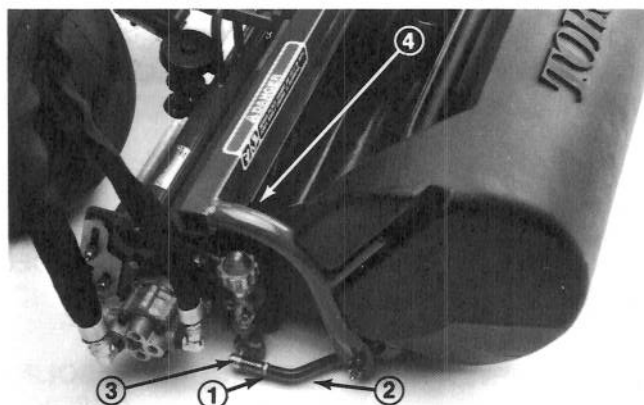
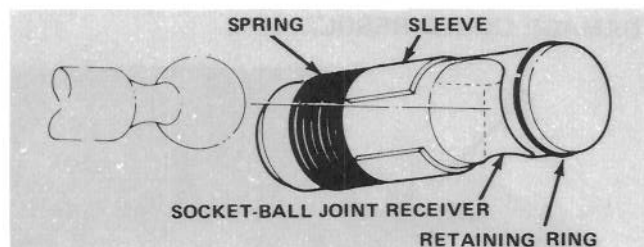

Figure 6
Figure 7
6. Mount the baskets on the pull frames, loosen the jam nuts on the pull arms and adjust the ball sockets until there is 1/4 in. to 1/2 in. clearance between the lip of the basket and the reel blades (Fig. 6).
7. Align the sockets in the ball joints so the open side of the socket is centered towards the ball stud (Fig. 7). Tighten the jam nuts to secure the sockets in position (Fig. 6).